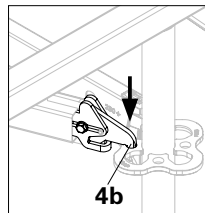

Fig. A1.04c
- Attach hook with slider (4b) to the rosette. (Fig. A1.04c)
(Fig. A1.04c)